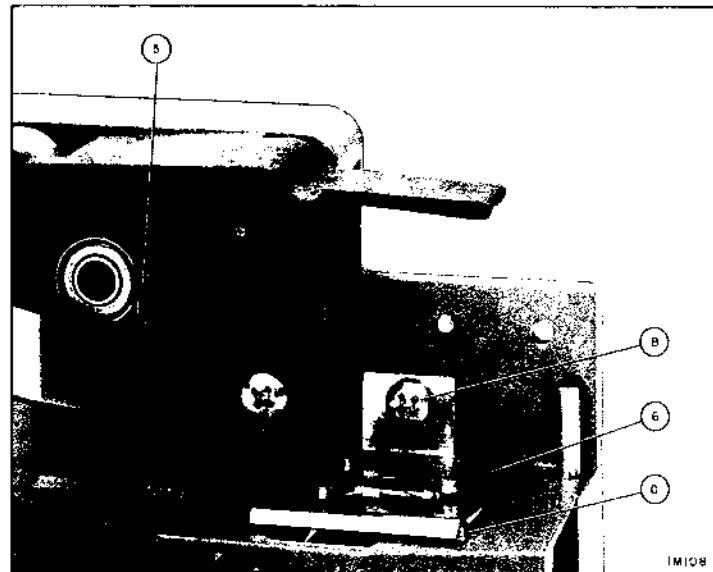

Figure 11
9. Remove screw **(B)** (figure 11).
12. When installing socket, make certain that shim **(C)** is in place under front lip of socket. Install screw **(B)** and press rear edge of socket down against casting while tightening. (Figure 11).